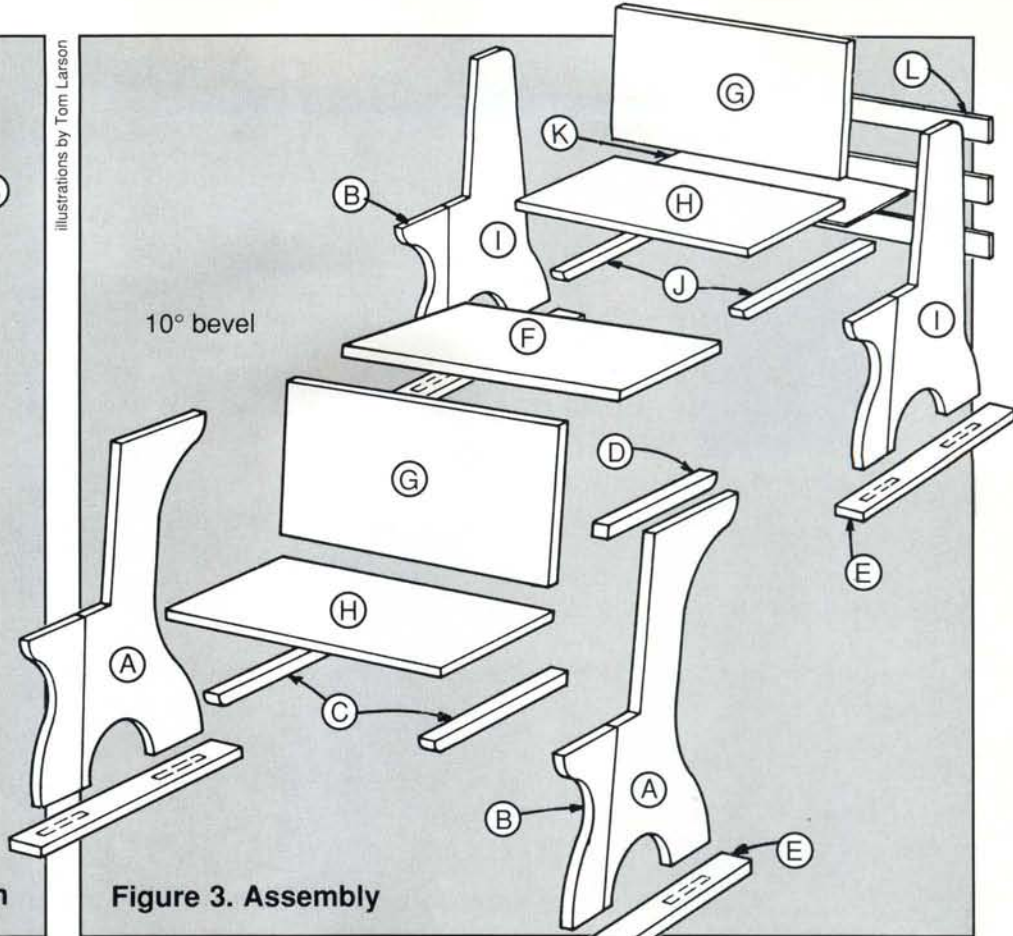

Figure 3. Assembly
the seat and the desktop each are beveled 10° along one long edge, as shown in Figure 3, in order to meet the angle of the sides and the seat back. Lightly mark a line on the underside of each of these pieces, 3/8" from their ends, to aid in positioning them during assembly.
Begin final assembly of the front desk by placing the seat upside down on the edge of a sturdy, clean work surface. Align a side with the line you drew earlier on the seat. Butt the beveled edge of the seat up against the angled edge of the side (Figure 3) and nail (or screw) and glue it in place. Attach the other side in the same way. Next, place the desktop upside down on the work surface and line it up against the sides as you did with the seat. The beveled edge should be right in line with the same angled side edges now butting against the seat. Finish nail and glue it in place. The unit now assembled will rest steadily upon its base strips.
While you can place two or more of these desk assemblies in tandem, sooner or later the kids will demand a "caboose" on their train. What better way than to utilize the magazine rack design shown in Figure 3? The rack sides (I) are similar to the desk sides (A) except as indicated on the PullOut™ Plan for that piece, while the B side pieces are the same. The assembly procedure is also similar, except for the changes described below.
nail (or screw) and glue the seat/rack supports (J) into position so that their back ends are flush with the back surfaces of sides (I) as shown in Figure 3. As you install the supports, be sure to make a left- and a right-hand subassembly. Join these subassemblies by nailing and gluing the seat (H) and seat back (G) in position as described earlier.